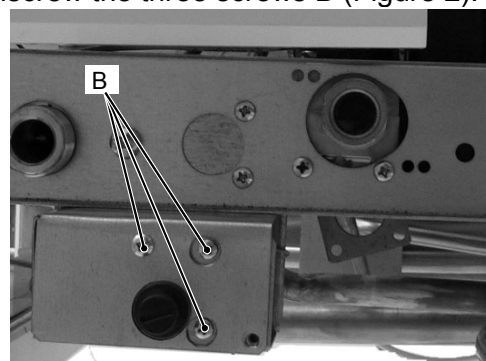

Figure 2
- 2) Unscrew the three screws B (Figure 2).